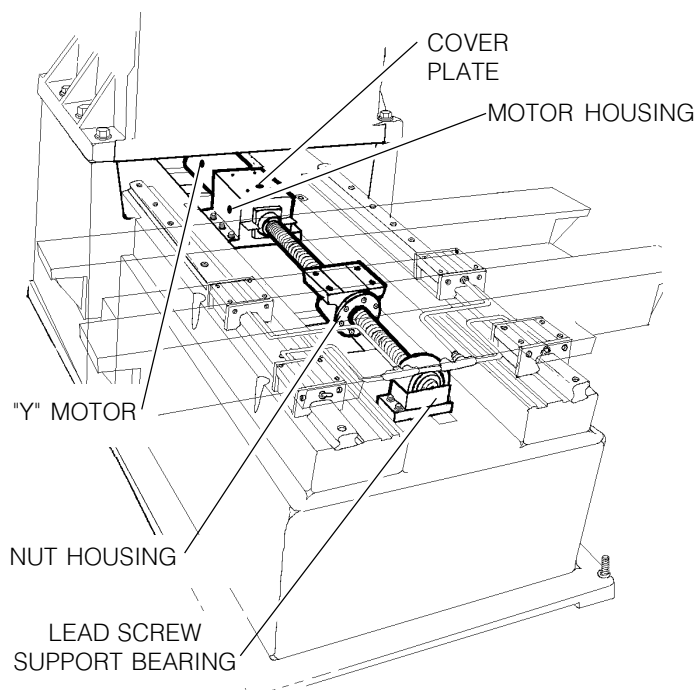

Fig. 12-3 Y-axis motor and components. (Saddle assembly shown transparent for illustration purposes.)
14. Move the table to the rear of its travel. Tighten the clamp nut on the **lead screw support bearing** on the end opposite the motor housing until it just contacts the bearing (See Fig. 12-3), then tighten the 10-32 x 1/2" SHCS on the **clamp nut**.